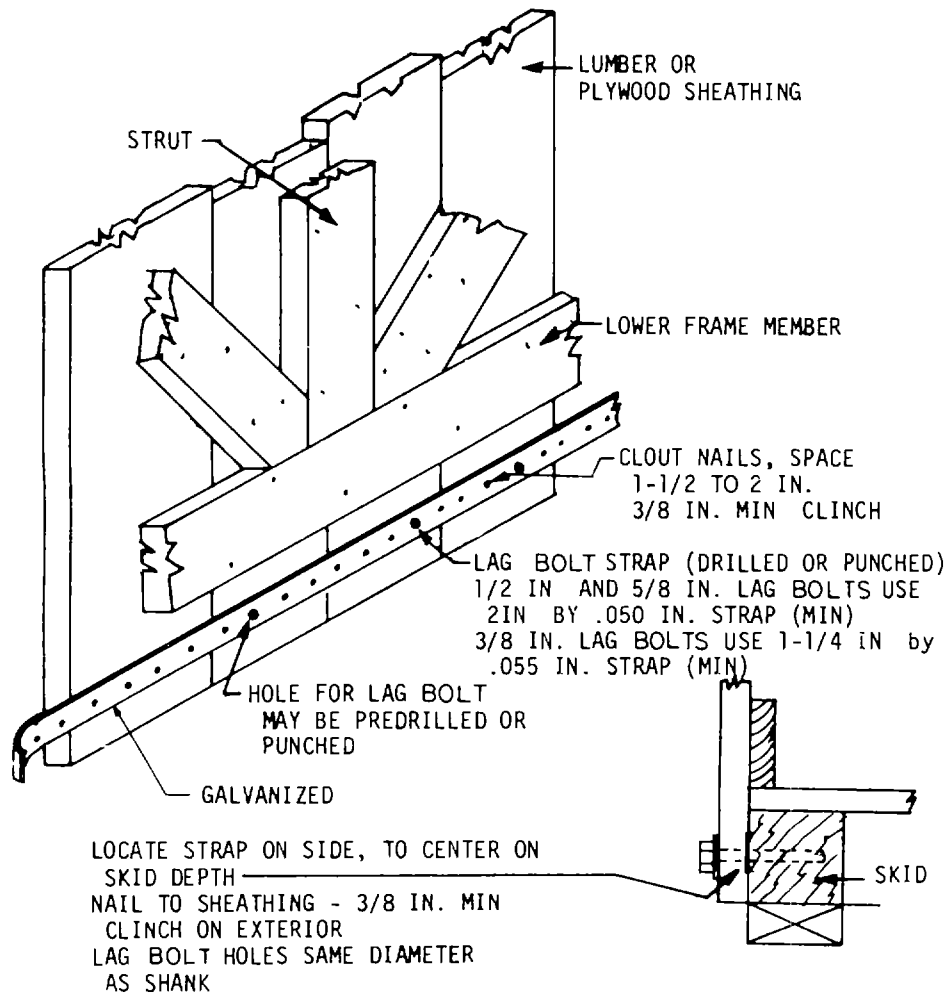

Figure D-3-6. Lag Bolt Reinforcing Strap.
(1) General. Type II (bolted) crates shall be assembled with lag bolts.
(2) Lag Screw Reinforcing Strap for Bolted Crates. Reinforcing strap shall be used on side and end panels of all demountable crates as shown in figure D-3-6. Galvanized steel strap, punched or drilled, 1-1/4 inches by 0.035 inch for 3/8-inch lag screws, and 2 inches by 0.050 inch for 1/2- and 5/8-inch lag screws, shall be nailed to the inner face of the sheathing between the lower edge of the bottom frame member and the bottom of the sheathing as shown in figure D-3-6. The strap shall be located to coincide with the center of the skid or header and shall be nailed on maximum 2-inch centers to the sheathing with clout or similar nails. Nails shall be clinched at least 3/8 inch.